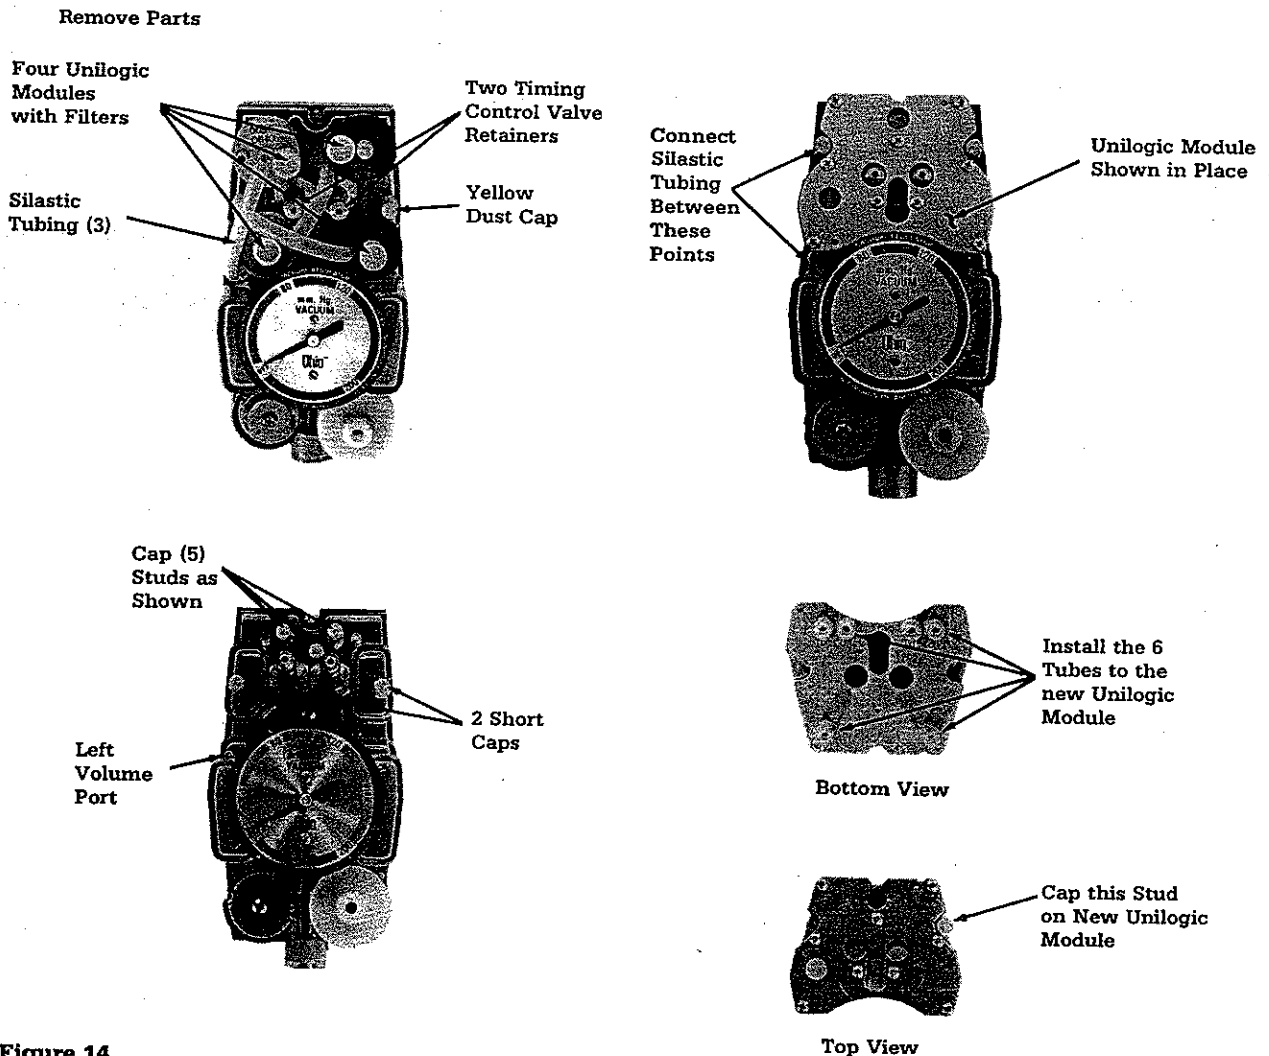

Figure 14
3. Remove and discard the two timing control valve retainers, the four Unilogic Modules, the three silastic connecting tubes, and the yellow dust cap. Retain one of the silastic tubes for step six. (See Figure 14)
Install five of the caps to the unit's base assembly and one to the new Unilogic module, as shown in Figure 14.